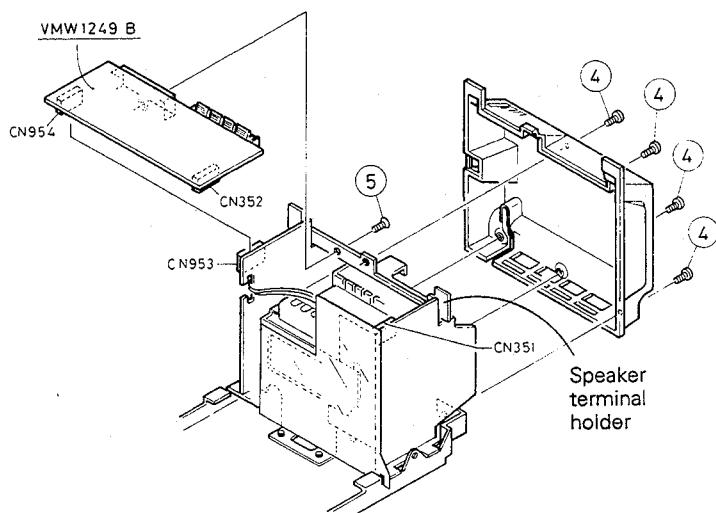
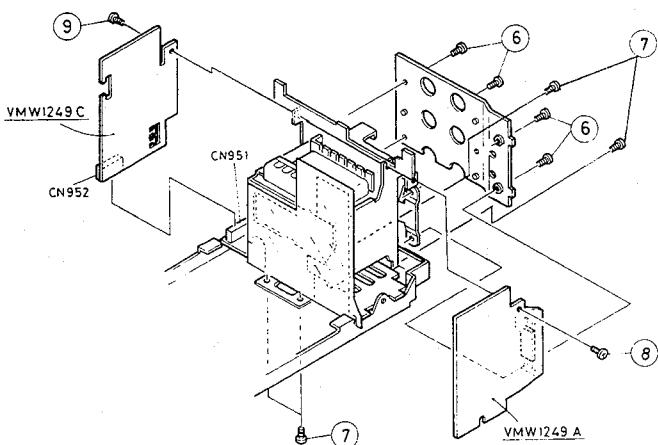

Fig. 7-11
Fig. 7-12
■ **Power supply section** (Fig. 7-11, Fig. 7-12)
1. Remove four screws ④ retaining the rear panel.
3. Remove a screw ⑤ retaining the connector of the power board (VMW1249B) from the speaker terminal holder.
5. Remove four screws ⑥ retaining the radiation (A).
6. Remove four screws ⑦ retaining the bottom cover and the transformer bracket.
7. Take off the bottom cover first, and remove a screw ⑧ retaining the power amp board (VMW1249A) to detach it.
8. Remove a screw ⑨ retaining the power relay board (VMW1249C).